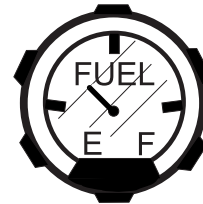

Figure 6. Fuel Gauge
1. Determine if the engine fuel is low (Figure 6). If fuel level is low, remove the fuel filler cap and fill with diesel fuel. Handle fuel safely. Motor fuels are highly flammable and can be dangerous if mishandled. **DO NOT** smoke while refueling. **DO NOT** attempt to refuel the ride-on trowel if the engine is hot or running.